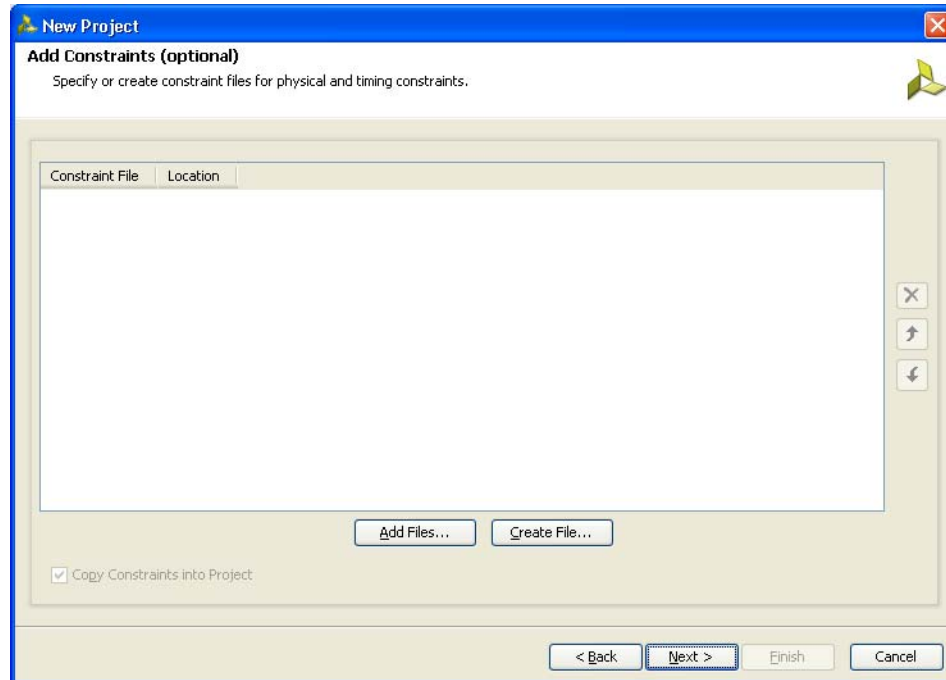

Figure 3-7: Add Constraints (Optional)
7. Click **Next** to open the **Add Constraints (Optional)** page (Figure 3-7). If the constraints file exists in the repository, it can be added to the project. Proceed to the next page if the constraints file does not exist.